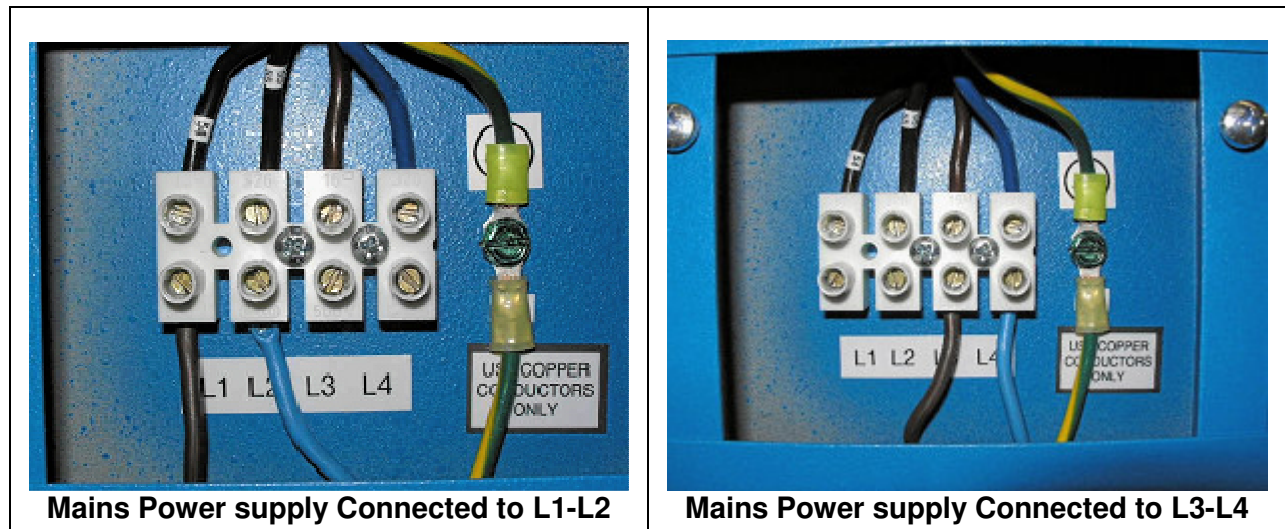

Figure 4 Connections for Mains Power Supply
4. If required, move the mains power supply wires to the correct terminal positions determined from Table 1 and tighten to 1.3 N-m (11.5 in-lb) torque. See Figure 4.